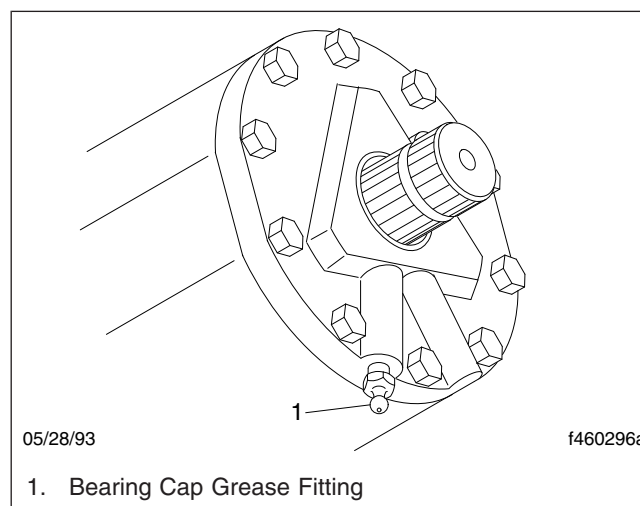

Fig. 3, Sheppard Bearing Cap Lubrication
1. Wipe off any debris from the bearing cap grease fitting. See Fig. 3.